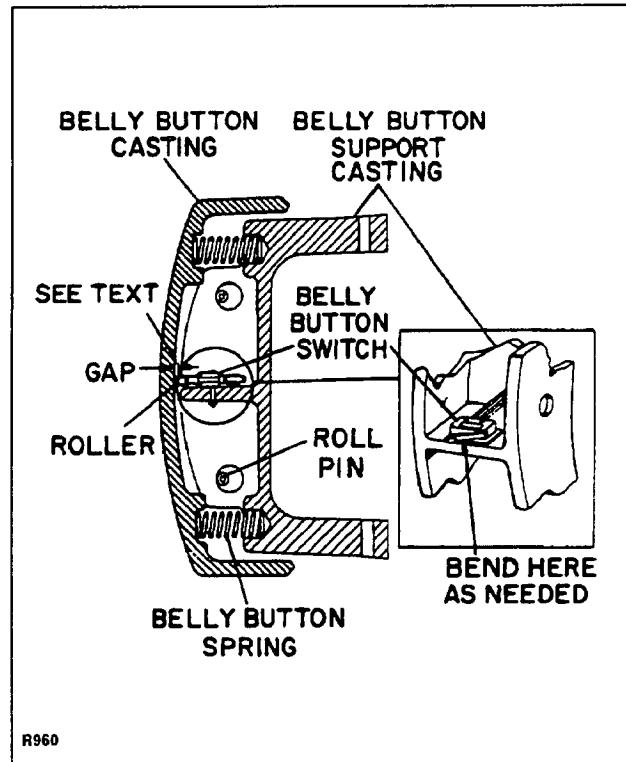

Figure 5-3. Belly-Button Switch Adjustment
3. Bend actuator lever of belly-button switch (Figure 5-3) to adjust gap so that switch clicks half way through travel of casting.